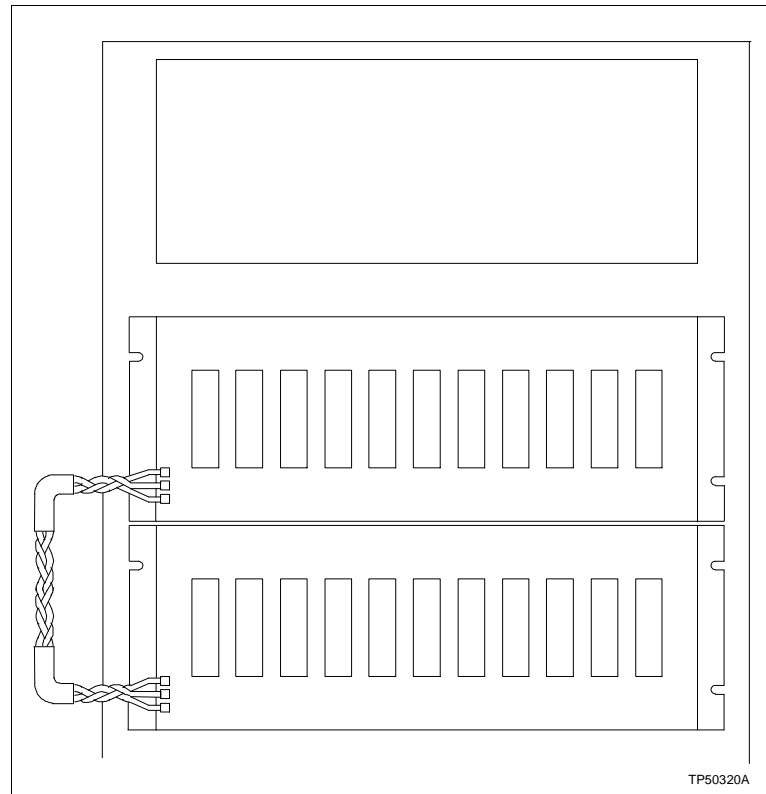

Figure 3-5. Controlway Cable Installation
1. Attach one end of the cable (twisted 3-wire) to the bottom three tabs on the lower left of the module mounting unit backplane (facing from behind). Refer to Figure 3-5.